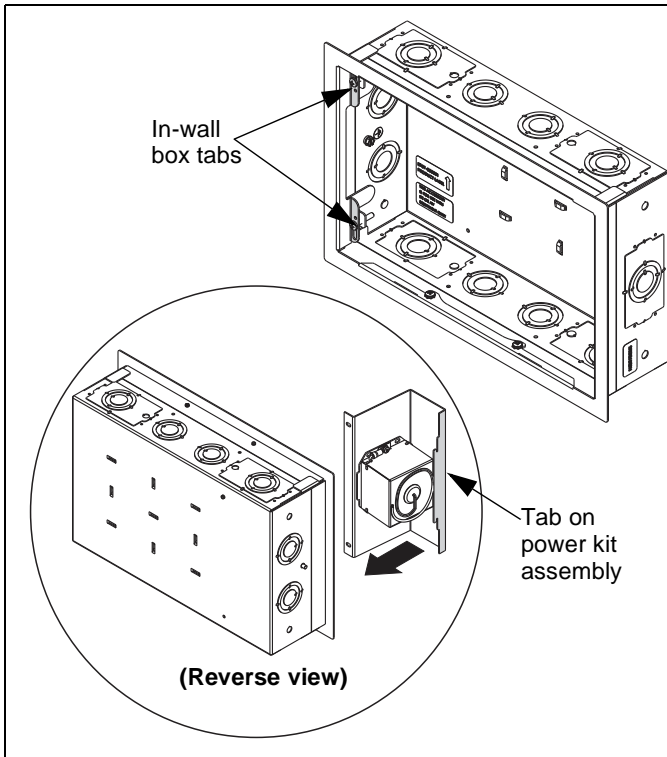

Figure 3
3. Insert the power kit assembly (A) into the in-wall box, joining the tab on the power kit assembly with the tabs in the in-wall box. (See Figure 3)